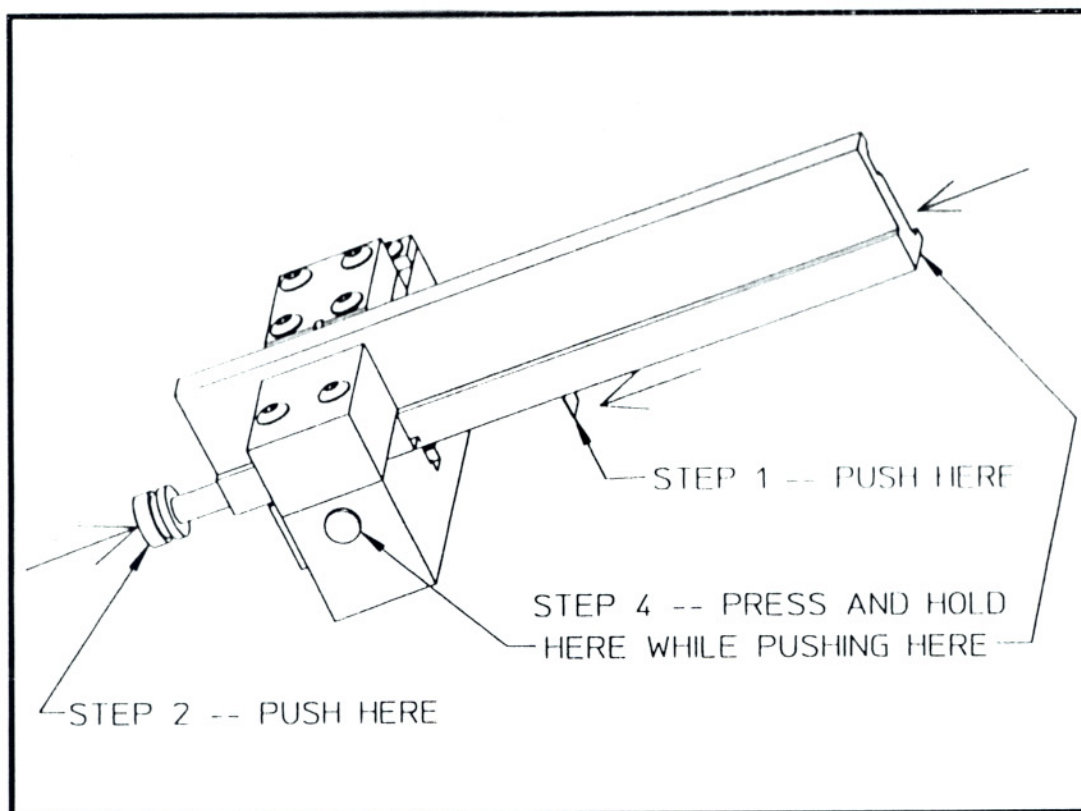

Fig. 6
2. Shift the connector slide all the way to the left using the push knob on the end of the slide. (This will push the release back to the left.) (See Fig. 6)
4. While pressing the locating pin on the front of the SL module, push the connector slide to the right until it stops. This should put the first terminal in front of the wire slot. (See Fig. 6)